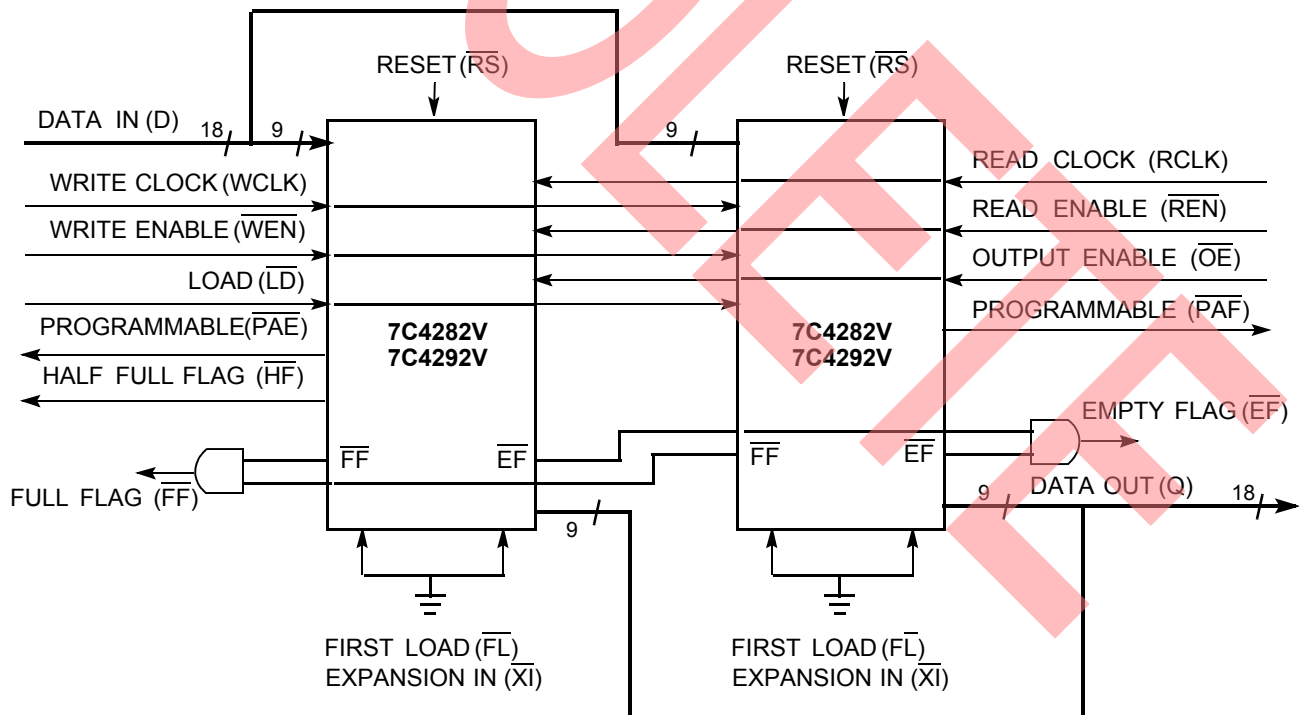

Figure 2. Block Diagram of 64K x 9/128K x 9 Low-Voltage Deep Sync FIFO Memory Used in a Width-Expansion Configuration
Word width may be increased simply by connecting the corresponding input control signals of multiple devices. A composite flag should be created for each of the end-point status flags (EF and FF). The partial status flags (PAE and PAF) can be detected from any one device. Figure 2 demonstrates a 18-bit word width by using two CY7C4282V/92V. Any word width can be attained by adding additional CY7C4282V/92V.
When the CY7C4282V/92V is in a Width Expansion Configuration, the Read Enable (REN) control input can be grounded (see Figure 2). In this configuration, the Load (LD) pin is set to LOW at Reset so that the pin operates as a control to load and read the programmable flag offsets.